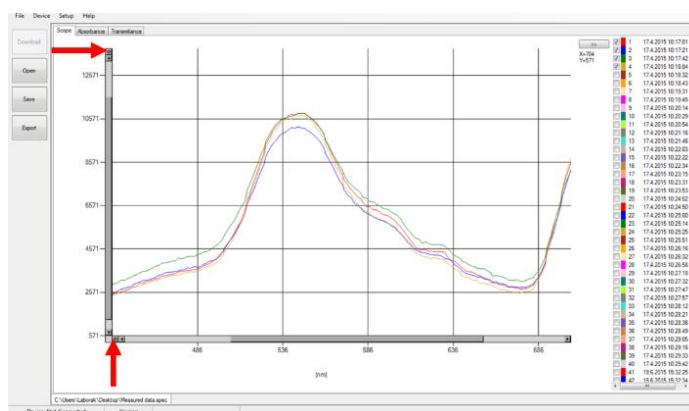

Fig. 20 Zoom function.
11. To **zoom in on the data displayed in the graph** select an area of the displayed graph. To reverse these steps and return to original display use minus icon in the corners of the zoom area marked with green rectangles in Fig. 20.